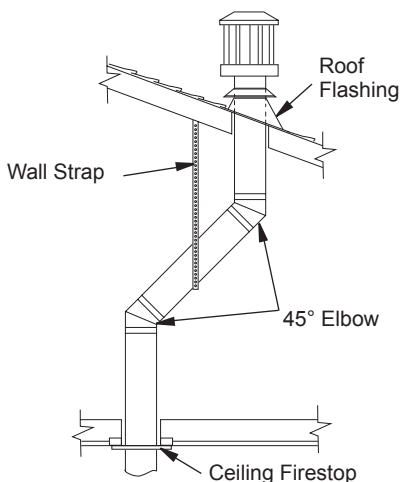

Figure 13 - Offset with Wall Strap and 45° Elbows
1. Determine the route your vertical venting will take. If ceiling joists, roof rafters, or other framing will obstruct venting system, consider an offset (see Figure 13) to avoid cutting load bearing members.